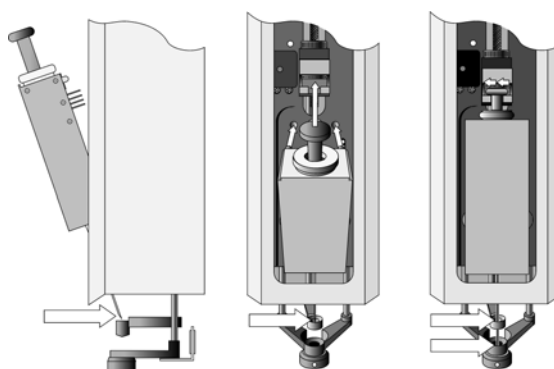

Figure 26. Installing and Removing a Headspace Syringe
- 5 Move the syringe, installed in the heated syringe adapter, partially into the Injection Unit. Guide the needle first into the upper needle guide and then into the lower needle guide (see Figure 26).